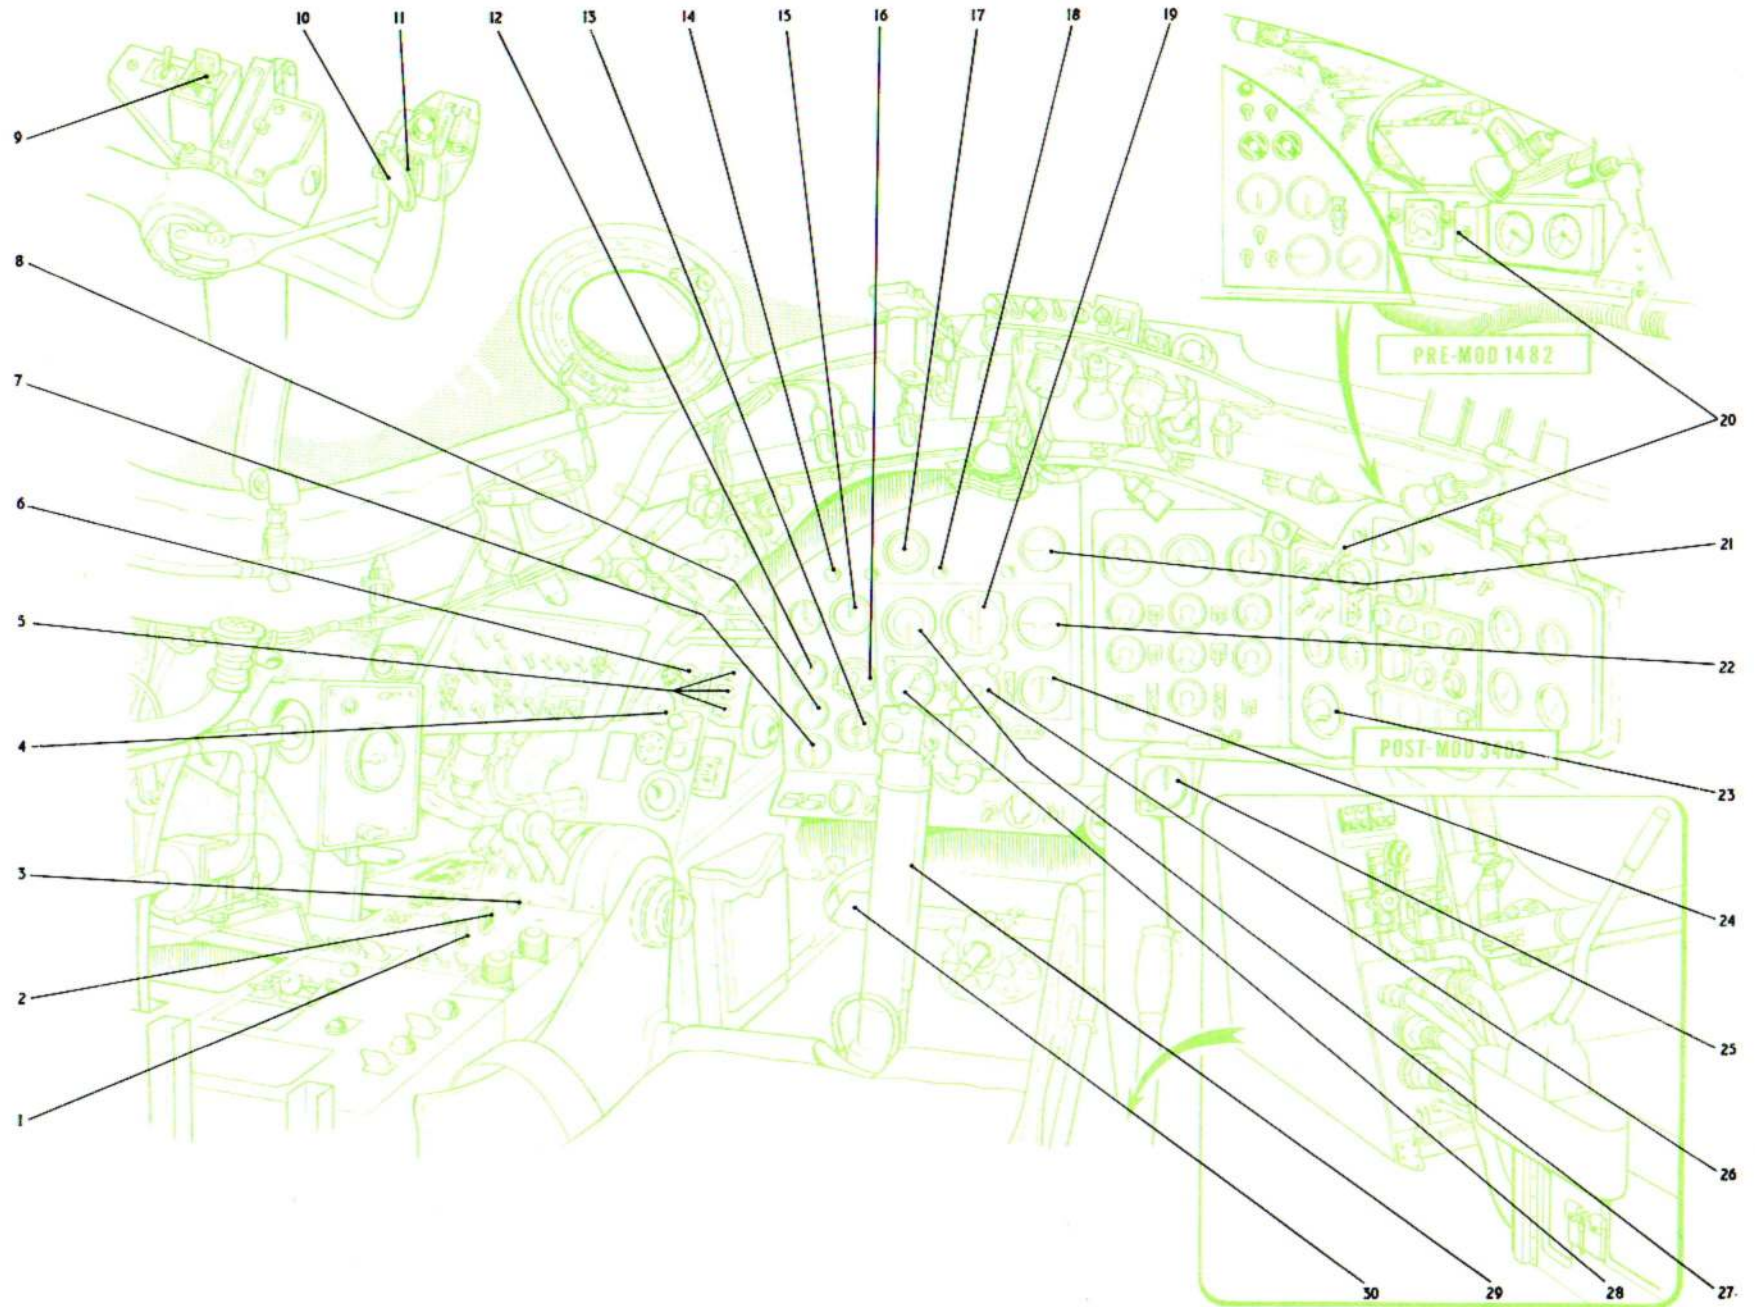

Fig.1. Flying controls and instruments (B(I) Mk.6 aircraft)
### KEY TO FIG.1 (FLYING CONTROLS AND INSTRUMENTS - B(I) MK.6 AIRCRAFT)